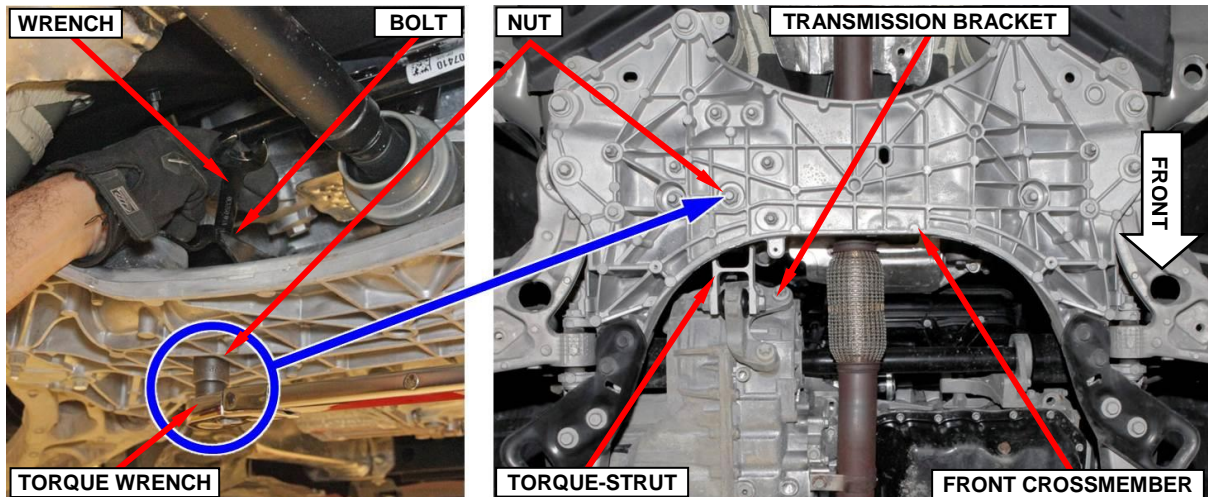

Figure 11 – Rear Torque-Strut
14. Torque-strut to the front crossmember fastener. Hold the bolt while tightening the nut to 86 ft. lbs. (116 N·m) (Figure 11).